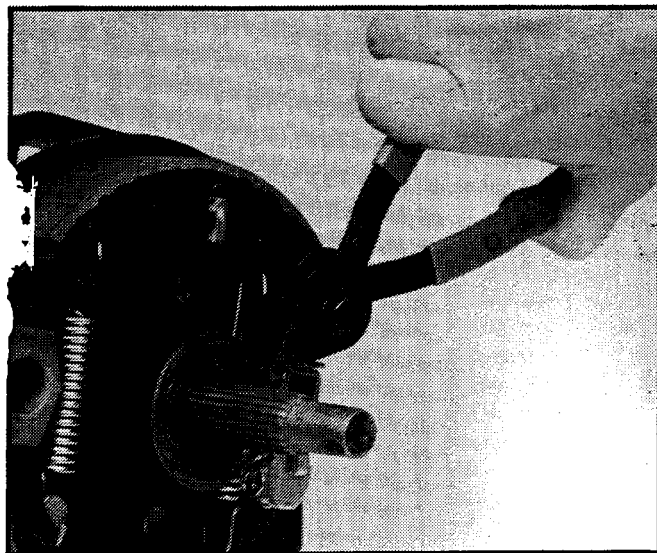

Fig. M-4
Remove the outer snap ring (2). Fig. M-4 and M-8.